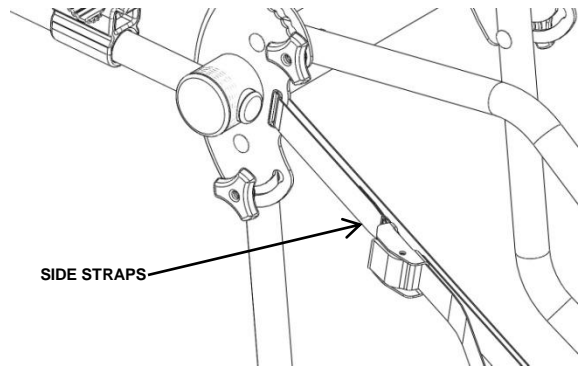

FIGURE 3
4. Pass side cam buckle straps through side strap slots on main support assembly side brackets and through slot on trunk hook. (Fig 3)